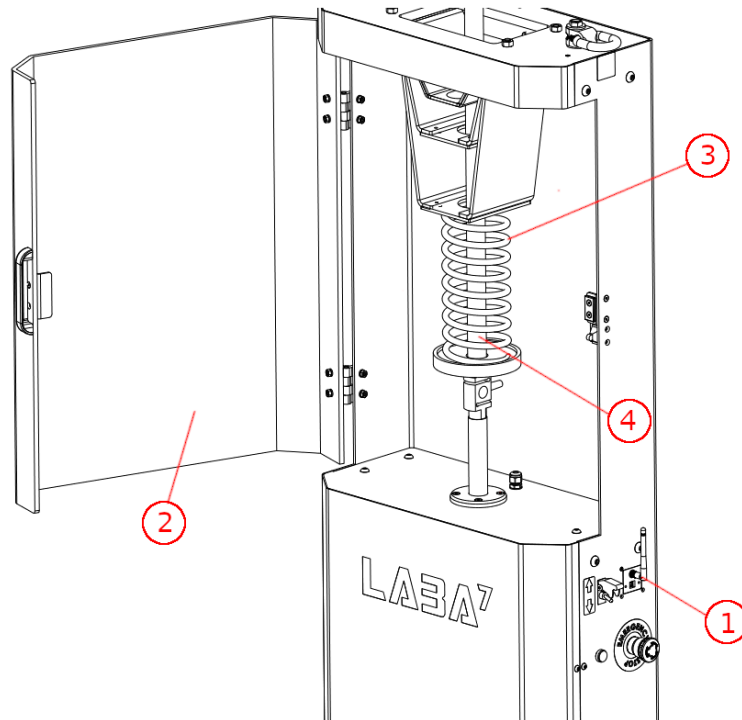

Figure 8
4. Open the safety lid (Figure 8 – Step 2) by pulling from the cover side handle.
6. Place the spring (Figure 8 – Step 3) on the mounting platform in a vertical manner.
7. Place the insert tube inside the spring to prevent it from bending or falling out during a test (Figure 8 – Step 4).